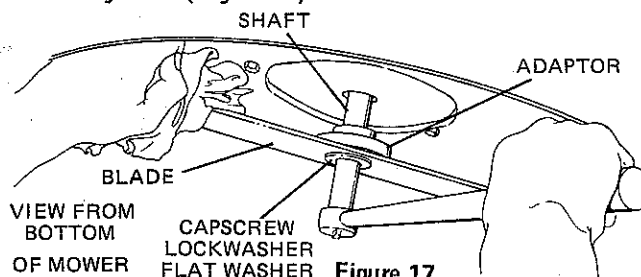

Figure 17
1. Do not attempt to remove the blade until you have the correct size box, socket or open end wrenches for the blade mounting bolts. (Figure 17)
3. Remove capscrow, lockwasher and flat washer attaching blade to engine shaft and adapter (Figure 17).